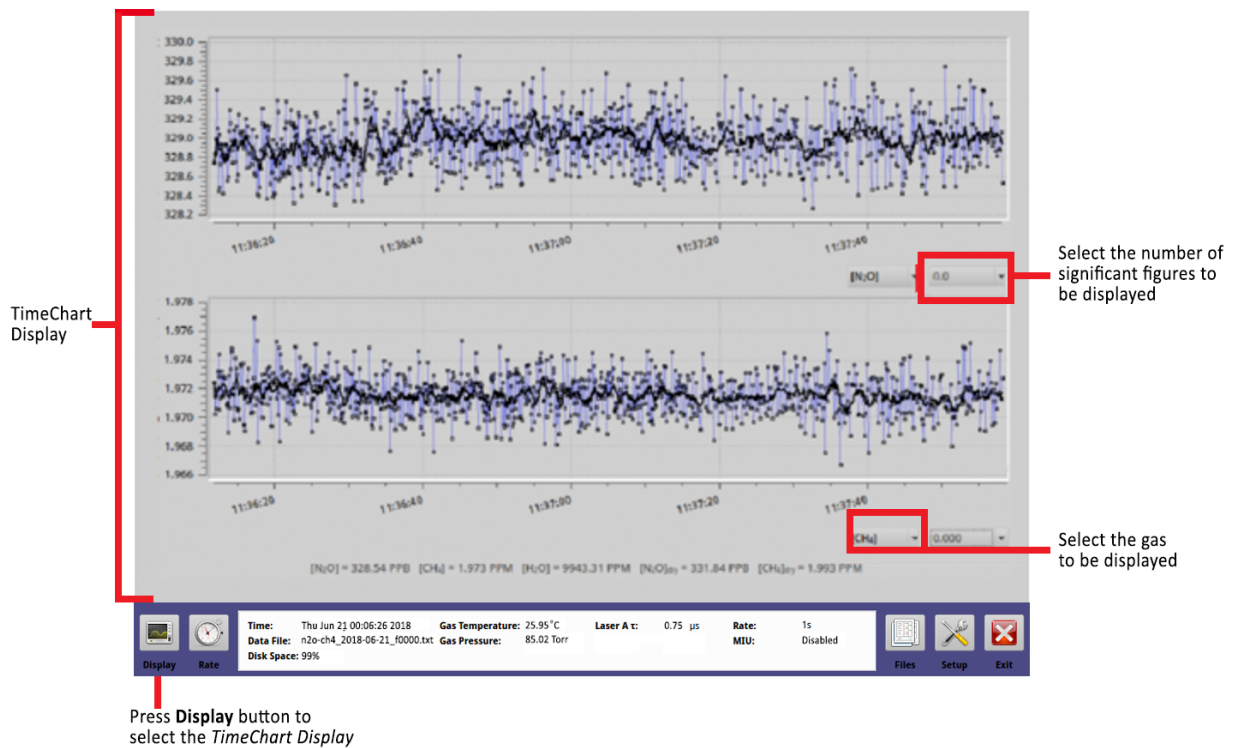

Figure 21: TimeChart Display
- **Time Chart Display** – Displays the concentration over time. (Figure 21)
Figure 21 shows the *Time Chart* with a continuous flow of gas. A 10-point running average (in black) is shown going through the raw data (shown in blue).
- a. When selected, the *Refresh Plot* button appears on the *Main Panel* display. When **Refresh Plot** button is selected, (Figure 21), current data is added to the *Main Panel* display.